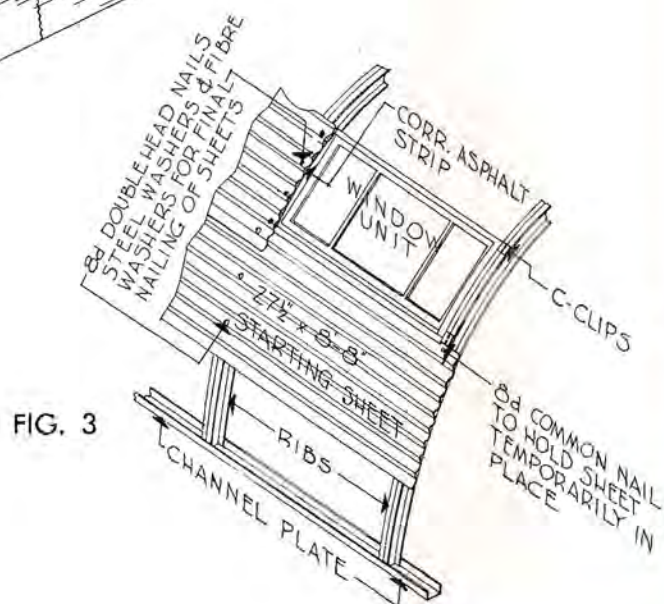
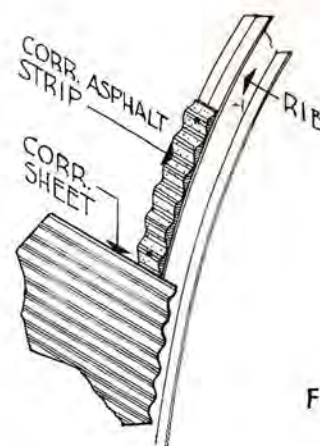

FIG. 3
FIG. 4
6. With 1½" Simplex or 7/8" roofing nails, nail the cut ends of the insulation to the head and sill of the window. (See Figs. 3 and 4, Page 11.)
1. Start the sheets with the row running under the window sill (see figure 3). At one of the windows take an  $8' 8"$  sheet, fit it snugly into the groove under the window sill turning the top edge of sheet out (see figure 4, page 11). One end of the sheet should project  $4"$  beyond the center line of the rib adjoining the window. (See figure 3.) Drive one 8d nail at each rib in the valley of the first corrugation at the top of the sheet. (This is to hold the sheet temporarily.)
2. Place the adjoining sheets in the same row. Each sheet should extend  $4"$  past the center line of the rib, which produces an  $8"$  lap. Lap all sheets the same direction. Each end lap should be "buttered" with mastic for a width of  $2"$  between the sheets to provide a seal. When each sheet is in place and lined with the starting sheet nail it temporarily as described in item 1 above. At each bulkhead rib (the ones with the wood blocks) insert strips of corrugated asphalt between the rib and the horizontal corrugated iron covering. Take care that the asphalt strip and corrugated iron corrugations match, then nail corrugated strip to rib with common nails before nailing corrugated iron. (See figure 4.)